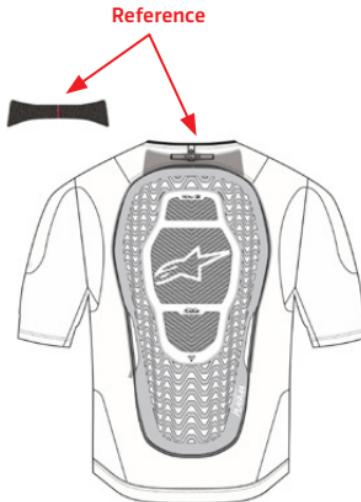

Figure 27: Attach the Back Protector (4)
2. Reinsert the Airbag and Attach the Back-Protector (4) - Reinsert the Airbag (11) and then proceed to attach the Back Protector (4) to the Base Layer (1), taking care to correctly attach the Velcro parts on the upper side of the protector to the Base Layer (1) as shown in Figure 27.
3. Attach the Airbag (11) - Proceed to close all 12 Connection Loops that attach the Airbag (11) to the Base Layer (1), making sure to match the colored labels on the Airbag (11) to the colored labels on the Base Layer (1), use the two openings inside the garment to access the Connection Loops on the front area. Make sure to follow the numbering on the labels to facilitate the reassembly of the System, as shown in Figure 27. In addition, check to make sure that the Airbag (11) is well positioned within the System and ensure that there are no folds in the Airbag (11) or twisting of the Airbag (11), especially in the shoulder areas. Double check that all 12 connection loops are positioned correctly and securely attached to the Base Layer (1).